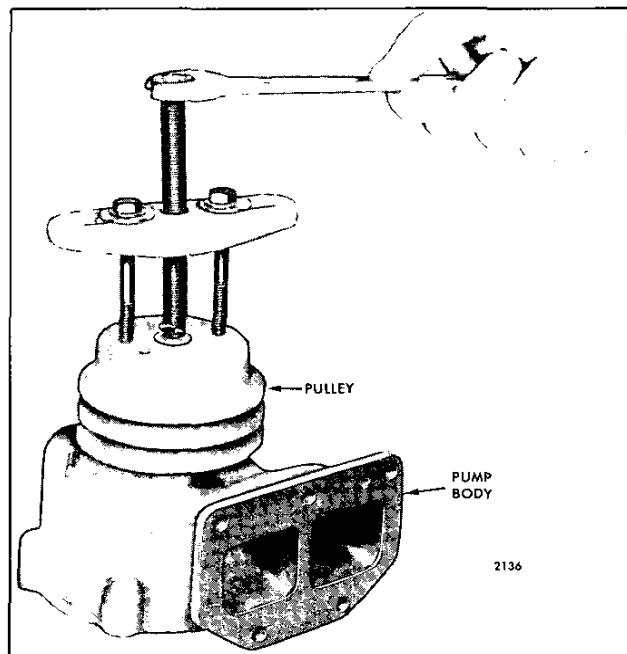

Fig. 7 - Removing Pulley Using Puller J 24420-A
1. Note the position of the pulley on the shaft so that the pulley can be reinstalled in the same position when the pump is reassembled. Remove the water pump pulley (Fig. 7).